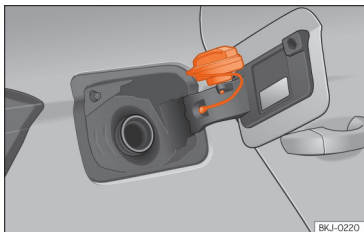

Fig. 273 Fuel tank flap with tank cap attached.
- Place it in the space on the hinge of the open flap »» Fig. 273.